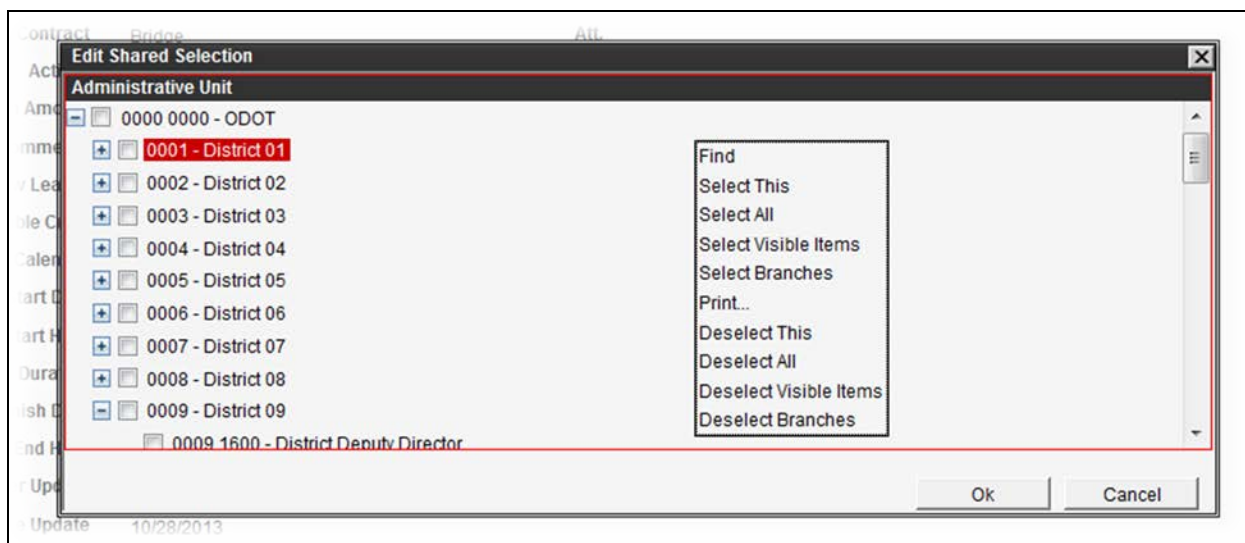

Figure 4-5. Sharing Work Order – Edit Shared Selection Dialog Box
2. A dialog box presents ODOT Divisions/Cost Centers (Figure 4-5), where:
- f. When appropriate Division/Cost Centers have been checked (Figure 4-5), select **OK** to apply the update, or select **Cancel** to exit.